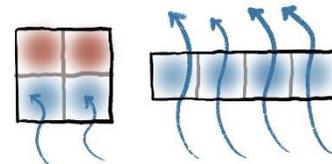

Fig. 16: Comparison between a thin building and a compact one for natural ventilation (Source: Author)
a) **Thinner buildings** facilitate the use of natural ventilation for passive cooling (fig. 16)